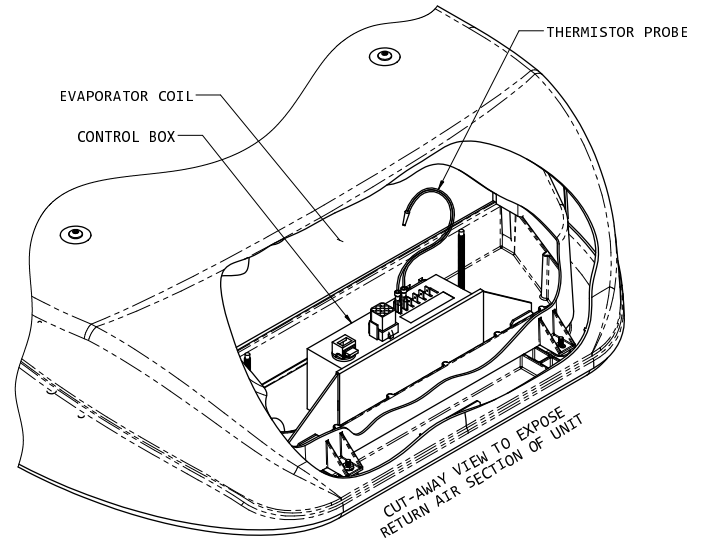

FIGURE 3
1. Two machine screws are on the upper units. The control box will be mounted by positioning the control box over the screws and using the wing nuts to fasten the control box to the upper unit. Installation in a 47000 series unit will require mounting the control box with the wires exiting upwards (See Figure 3).